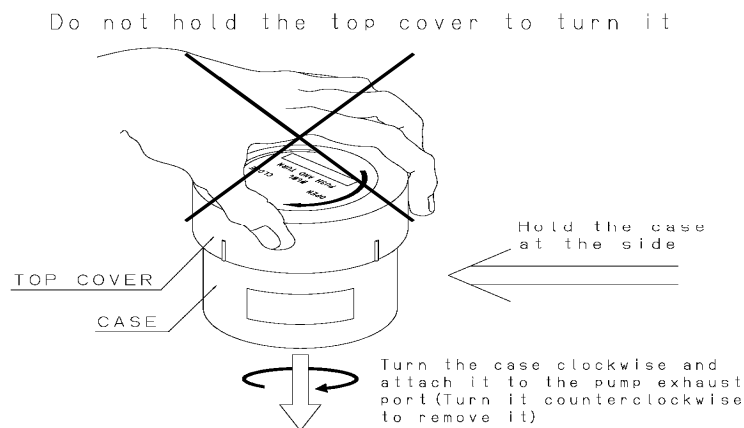

Fig. 2 Installation of oil mist trap
- (1) Make sure that the pump is at stop.
- (2) Mount an O-ring (P-41, accessory) in the connection of the oil mist trap.
- (3) Attach the oil mist trap to the pump exhaust port of which connection is compatible with the oil mist trap and turn it clockwise holding the case at the side. (See Fig. 2.)
- (4) Before removing the oil mist trap, make sure that the pump is at stop and turn it counterclockwise holding the case at the side.